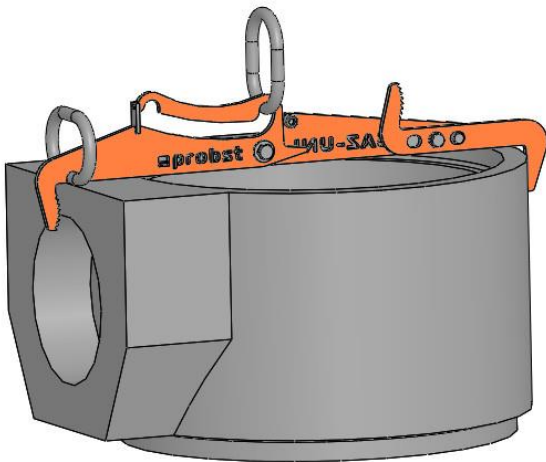

Fig. 6
When gripping socket parts (Fig. 6), the movable gripper arm (1) must be rotated by 180°.